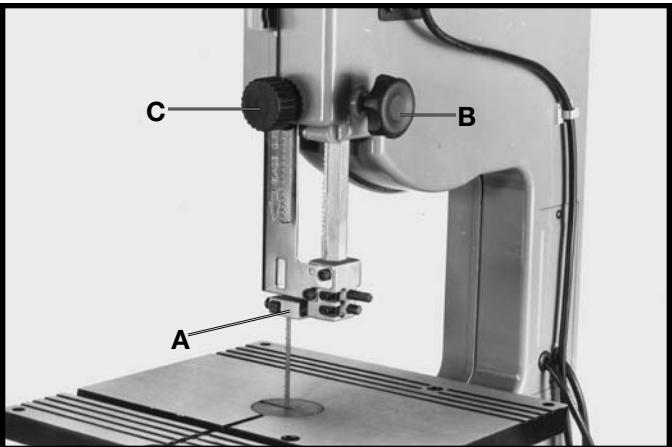

Fig. 31
The upper blade guide assembly (A) Fig. 31, should always be set about 1/8 above or as close as possible to the top surface of the workpiece being cut. Loosen lock knob (B) and rotate adjusting knob (C) to position the guide assembly (A) at the desired height. Then tighten lock knob (B).